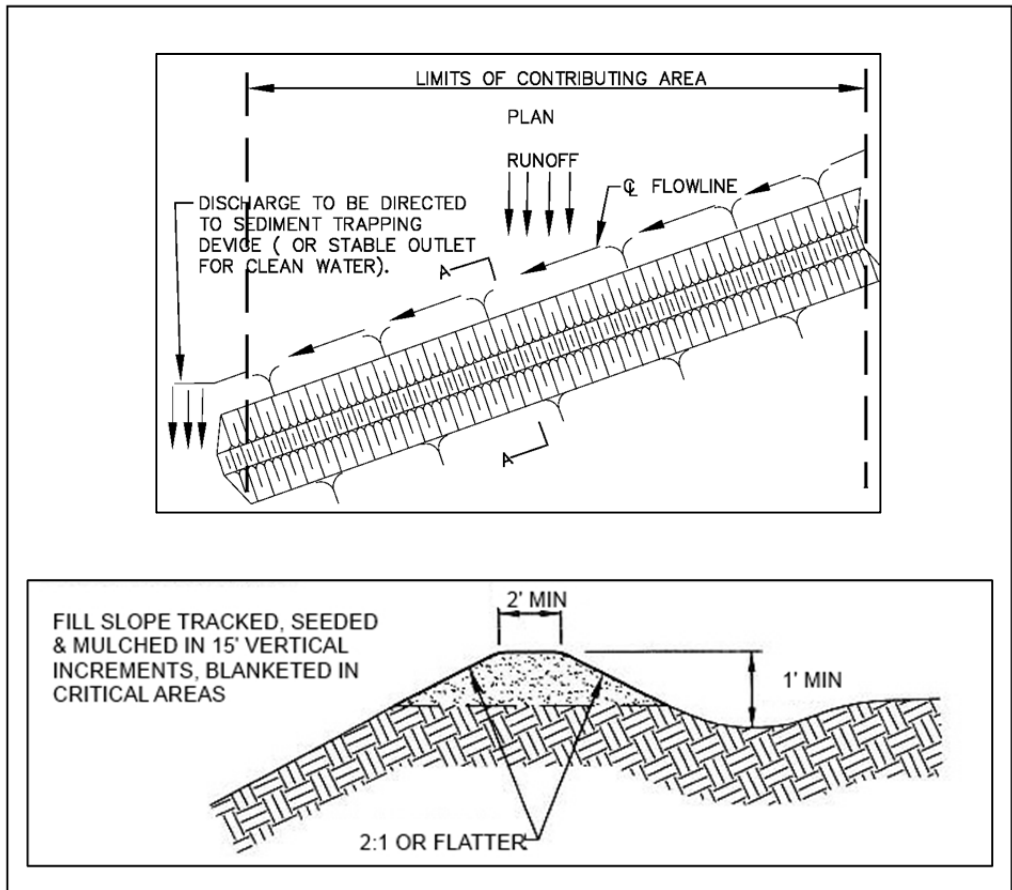

Figure 28: Top of Slope Berm
- **Figures 28 and 29** show typical layout of berms.